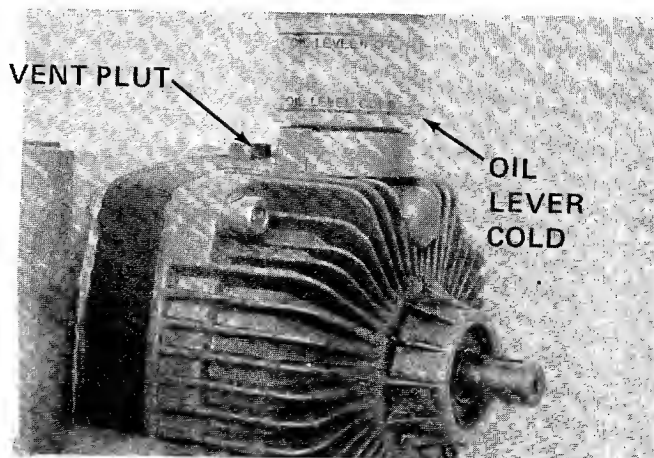

FIGURE 11.
The transmission fluid level should be checked prior to initial use. The level should not be above the COLD mark which is about 1/4" from the bottom of the reservoir/expansion tank. See figure 11.
3. Check the oil level in the reservoir/expansion tank. See figure 11.